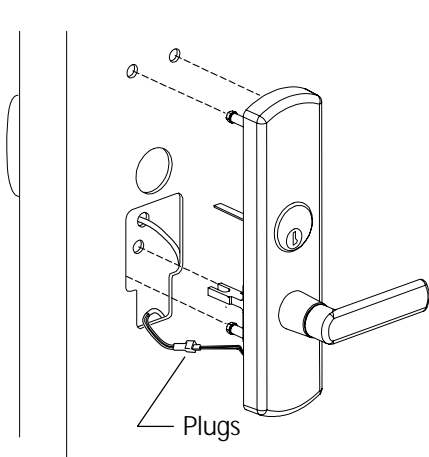

Figure 12-1
- 12.1. Connect trim plug and cable plug (Figure 12-1).
- 12.2. Route wires into corner of the cutout near post. Push the wires down into the door to ensure they do not contact the slider (Figure 12-1).